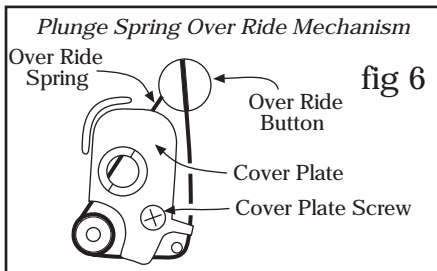

fig 6
1. Select the router base and #42, half blue nylon washer. Remove subbase from base. Using fig 6, locate the plunge spring over ride mechanism. Remove the cover plate screw and cover plate.
1. The easiest way to prepare the gasket is to first drill the Router Raizer access hole through the original subbase. Place the rubber gasket on a scrap piece of wood. Align the pre-punched 3/4" gasket hole and the Raizer access hole in subbase. Using ink pen, transfer mounting hole locations to the gasket. Using a utility knife or razor blade, hold the subbase in position while cutting around inside and outside of the subbase. Remove subbase and cut mounting holes. Using (fig 6) place the gasket between the router base and subbase or insert.